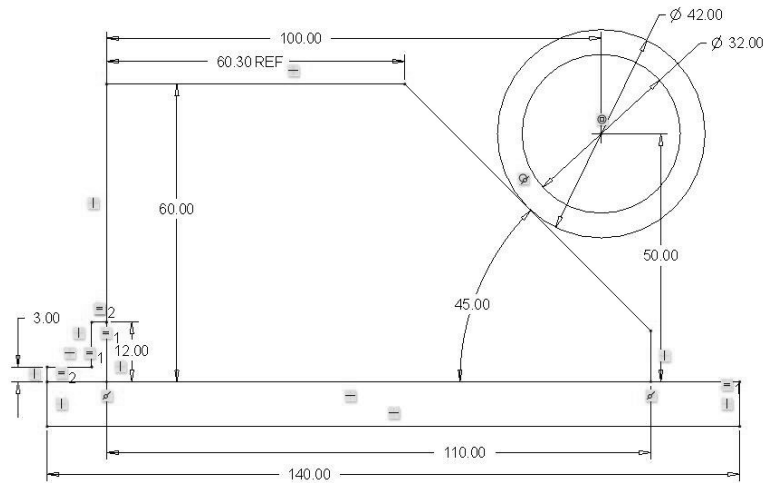

Figure 3-69 Jig Design 1c
Step 43: Change the tab’s height dimension from 10 to 12, and the tab thickness dimension from 2.5 to 3. Change the rectangular base’s length from 120 to 140. See Figure 3-69.
- Step 45:** Within a few minutes the six defined parameters should be changed. Setting the jig's base to 110 millimeters allows the pipe to touch near the center of the slanted surface. The jig's new top dimension is _____ mm. (Answer: Top = 60.3 mm.) See Figure 3-69.